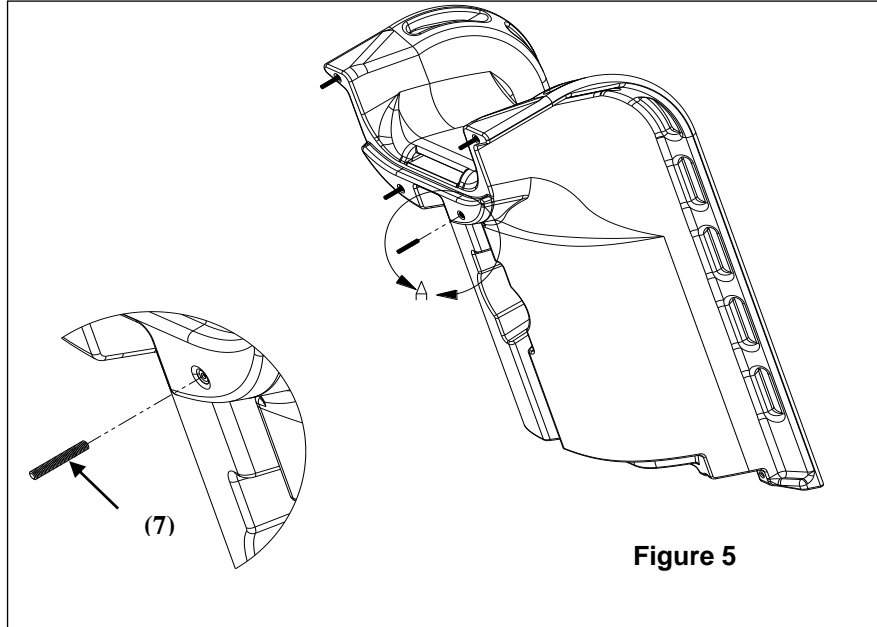

Figure 5
- 4) Insert the threaded studs into each of the threaded inserts as shown in Figure 5. The studs should be screwed in by hand until they reach the bottom of the insert. If the studs cannot be threaded in by hand, pliers may be used. Before using pliers, a piece of cloth should be placed over the stud to protect the threads from damage. **Note: Be sure to apply anti-seize to all fasteners to prevent galling.**